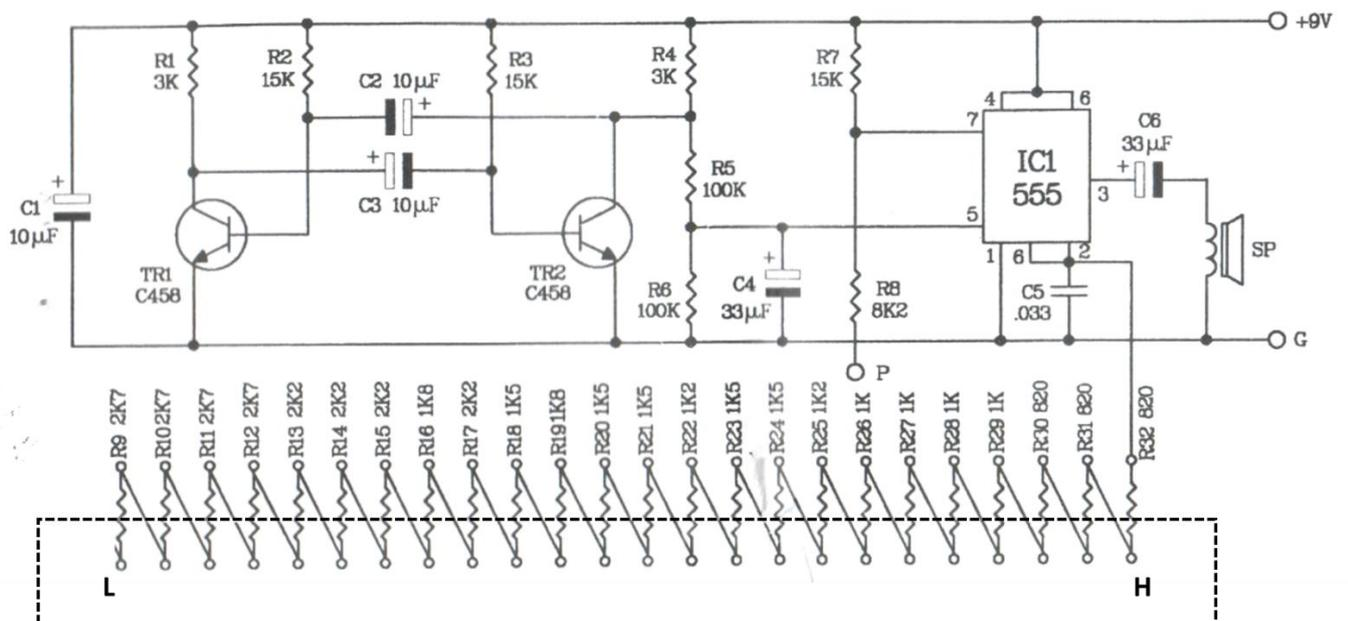

Fig 2: Circuit Diagram for the system.
Refer to the Circuit Diagram in Figure 2. Different frequencies, or notes are selected by touching the Probe (P) or Stylus to the points contained within the dotted line (these relate to different "keys" on the keyboard PCB).